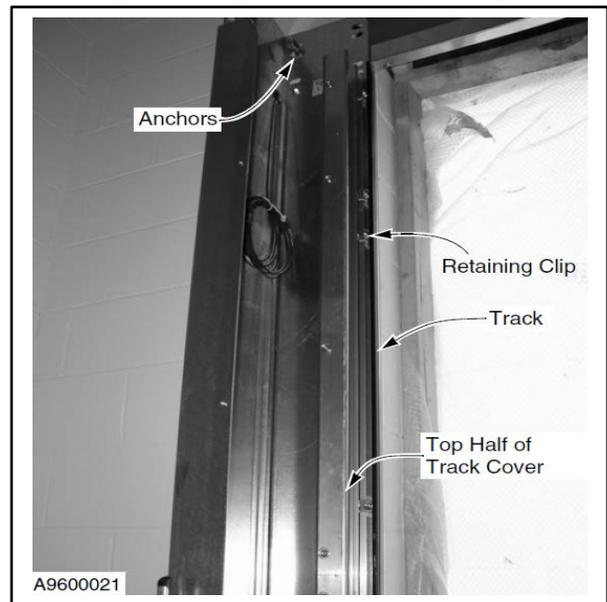

Figure 31
5. Inspect the hardware used to attach the vertical track sections to the left and right side columns. Tighten the hardware as required. Replace any missing or damaged hardware. (See Figure 31.)